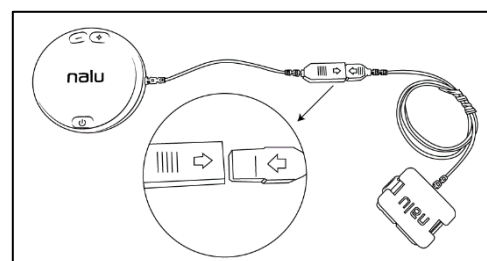

Figure 1: Connect Trial Therapy Disc to Electrode Interfacing Cable
1. Plug the micro HDMI adapter into the micro HDMI port on the Trial Therapy Disc as shown in Figure 1.
2. Three (3) short beeps will sound when the Trial Therapy Disc connects to the lead.